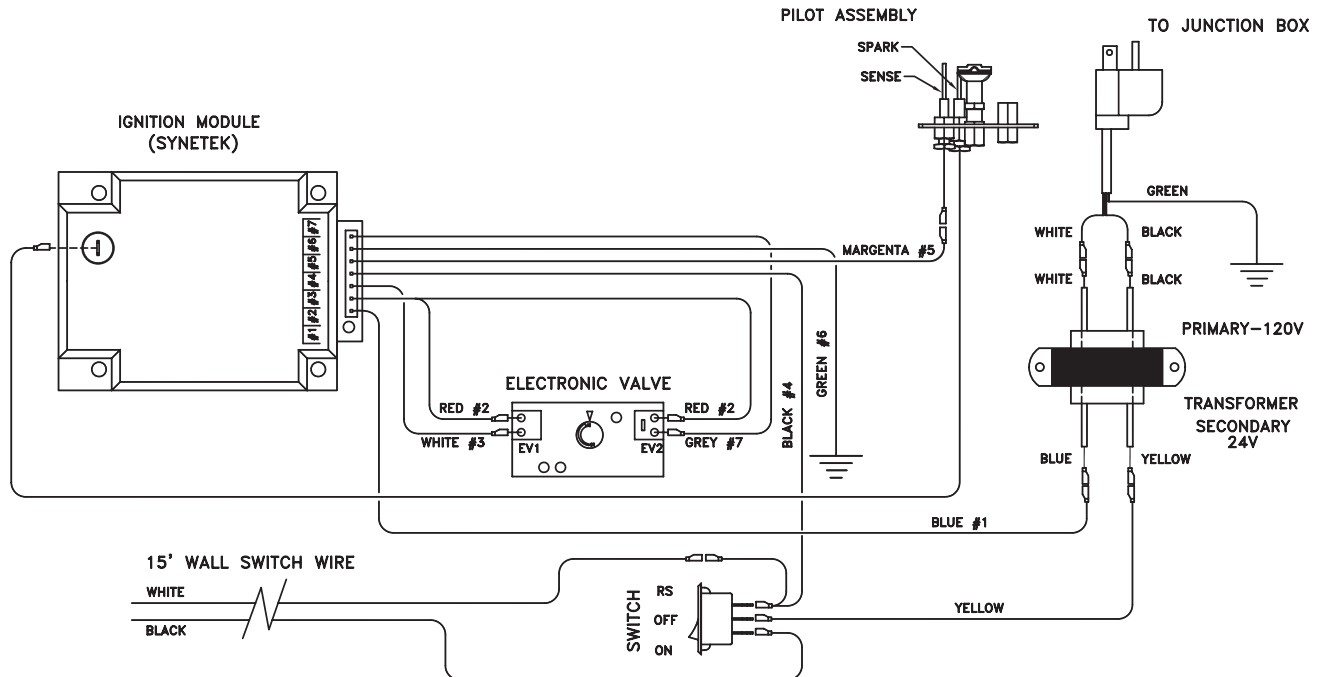

Figure 40 -
2. Connect the wire terminal from the remote receiver. This replaces the 15' wall switch connection to the switch. *Figure 40*